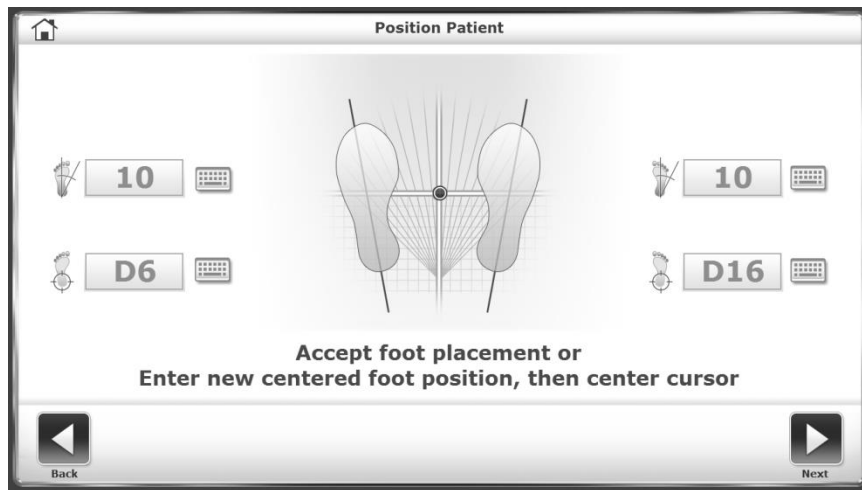

Figure 4.5. Position Patient Screen.
1. Have the patient stand in a natural stance on the static platform. The Position Patient screen displays the patient's center of gravity as a dot (see Figure 4.5).